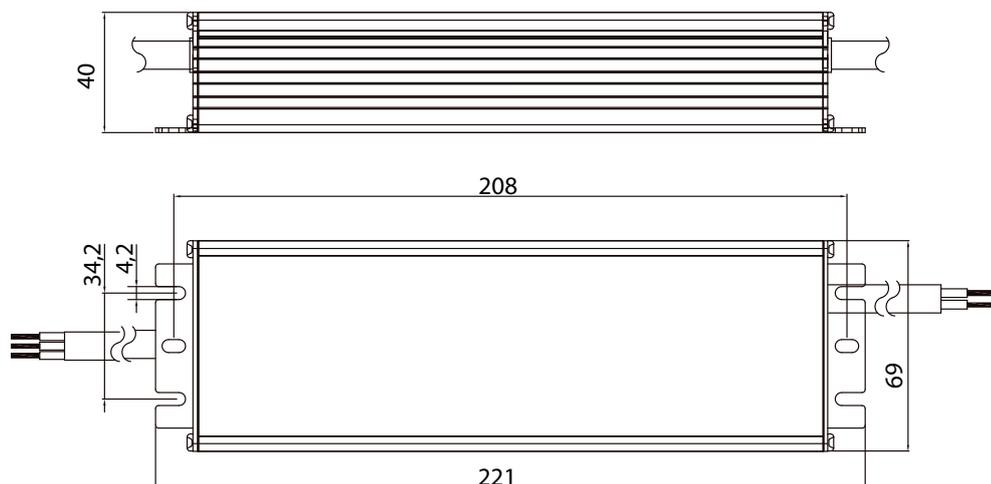

Figure 2: Device dimensions
- At the installation location, drill four holes according to the dimensions shown in Figure 2.